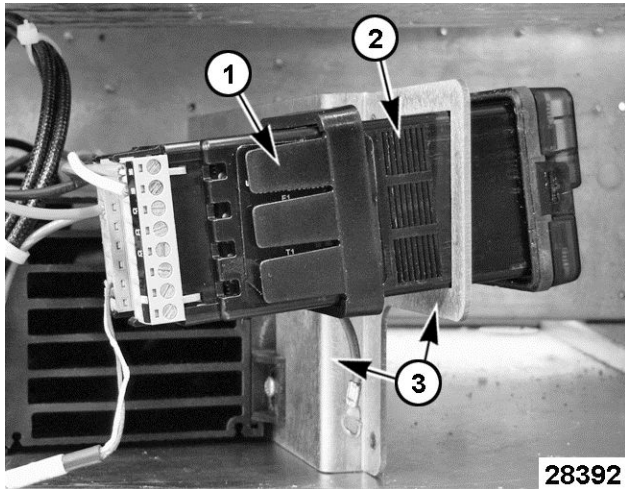

Fig. 44
4. Lift the locking tabs [1] Fig. 44 on both sides of the mounting collar to unlatch them from the ridges [2] Fig. 44 on PID controller. Use a 1.5" putty knife or equivalent thin tool underneath each locking tab to hold the teeth away from ridges. Slide the mounting collar away from the mounting bracket [3] Fig. 44 as shown.